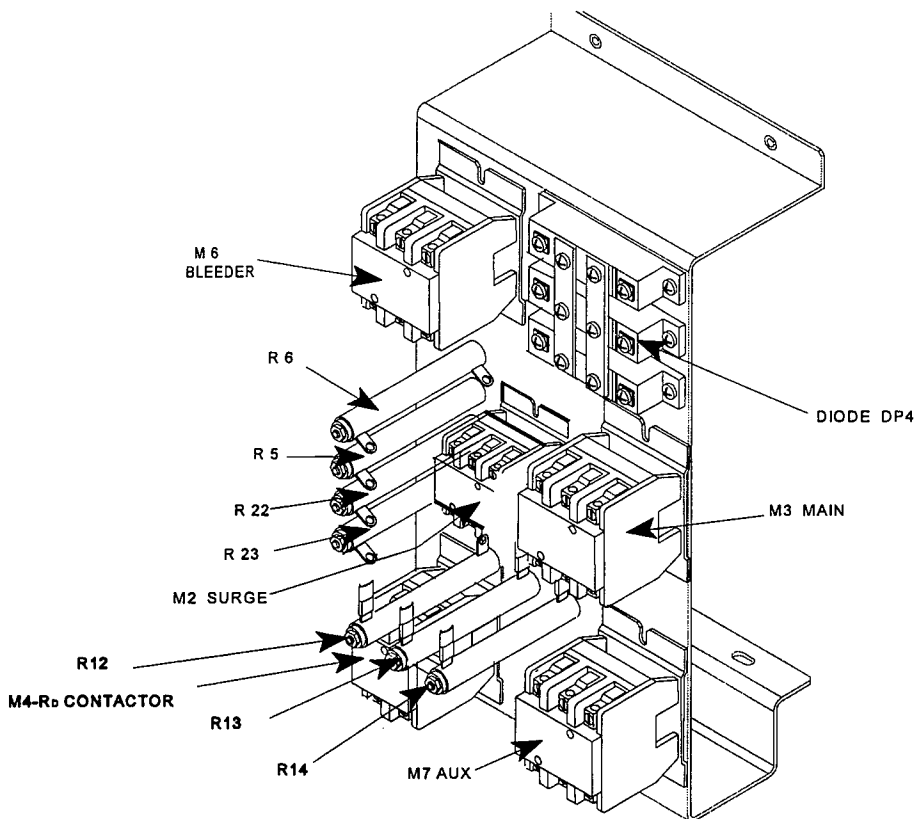

FIGURE 1 EXISTING POWER SUPPLY PANEL ASSEMBLY
4.1 Disassembly of existing Power Supply Panel Assembly (see FIGURE 1)